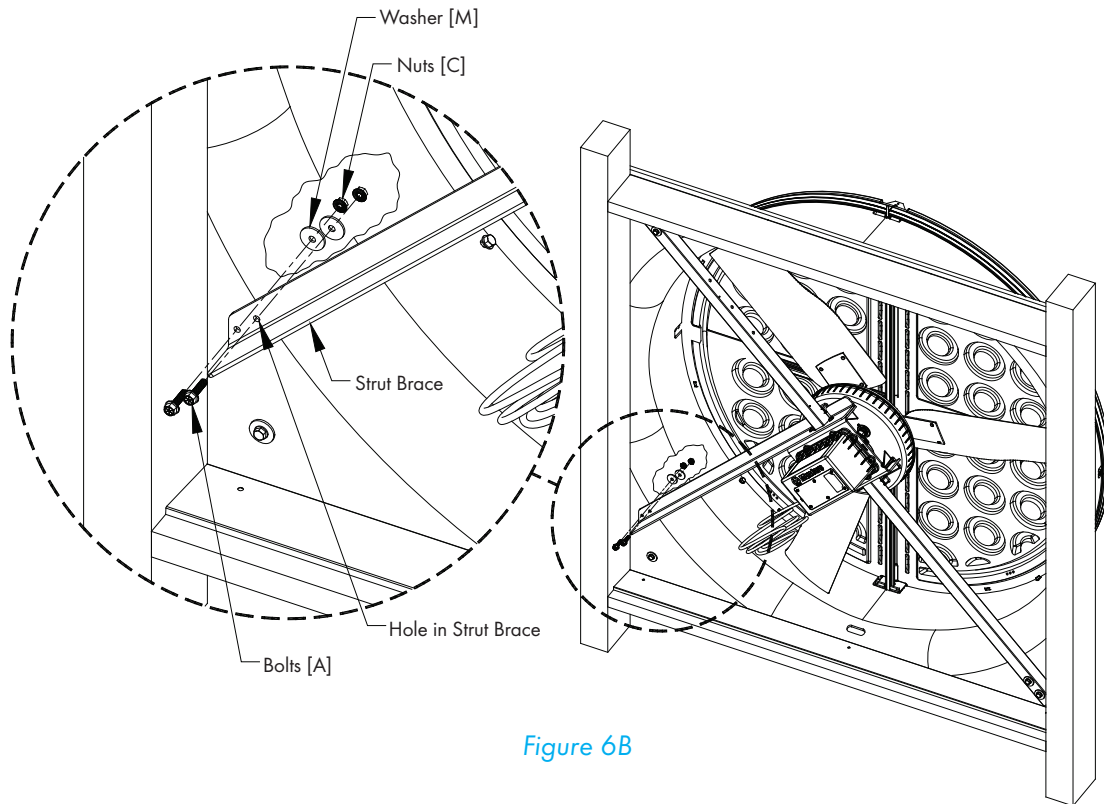

Figure 6B
Where the bottom of the Strut Brace meets the Orifice Panel, use the 2 holes in the Strut Brace as a guide and drill (2) $\frac{5}{16}$ " holes through the fiberglass Orifice Panel. Secure Strut Brace to Orifice Panel using (2) Bolts [A], Washers [M] and Nuts [C]. See Figure 6B.